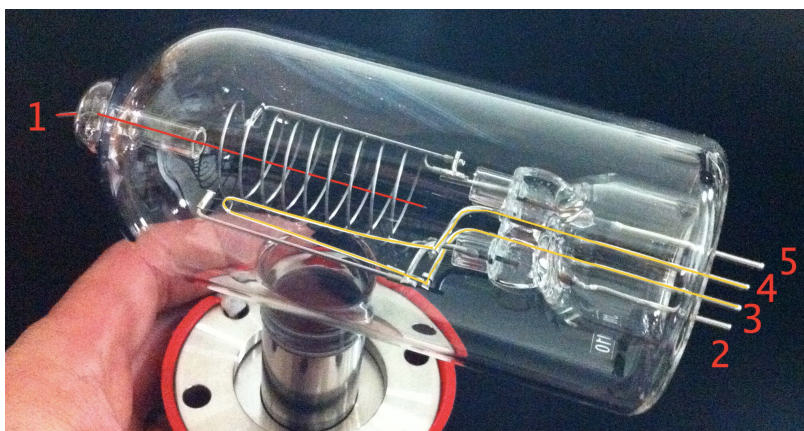

Figure 1: **PIN 1:** Collector, **PIN 2 and 5:** Grid, **PIN 3 and 4:** Filament
- 3) Ohm (Ω) the filament (the two middle pins labeled #3 and #4 on figure 1). The reading should be (0.1-3) ohms. If the reading shows an open circuit the gauge should be replaced.
- f) Inspect the replacement ion gauge and insure that the COLLECTOR wire is not touching the GRID (Figure 1). Install the new ion gauge. Tighten the hex (allen) screws enough to insure there are no vacuum leaks.